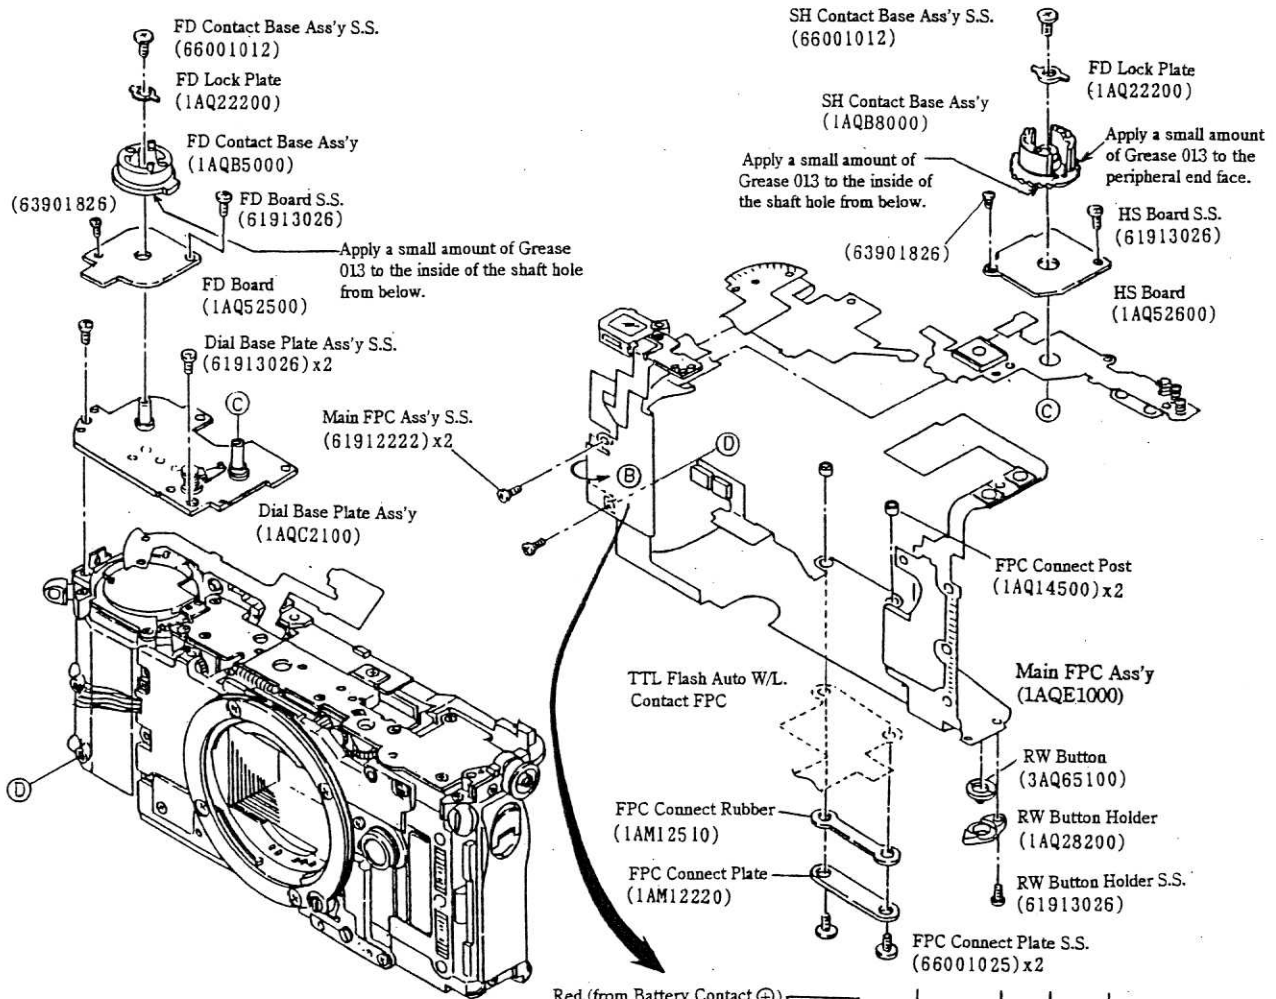

Fig. 13
- (See Fig. 13)
(See Fig. 13)
(Front Left of Body) (See Fig. 13)